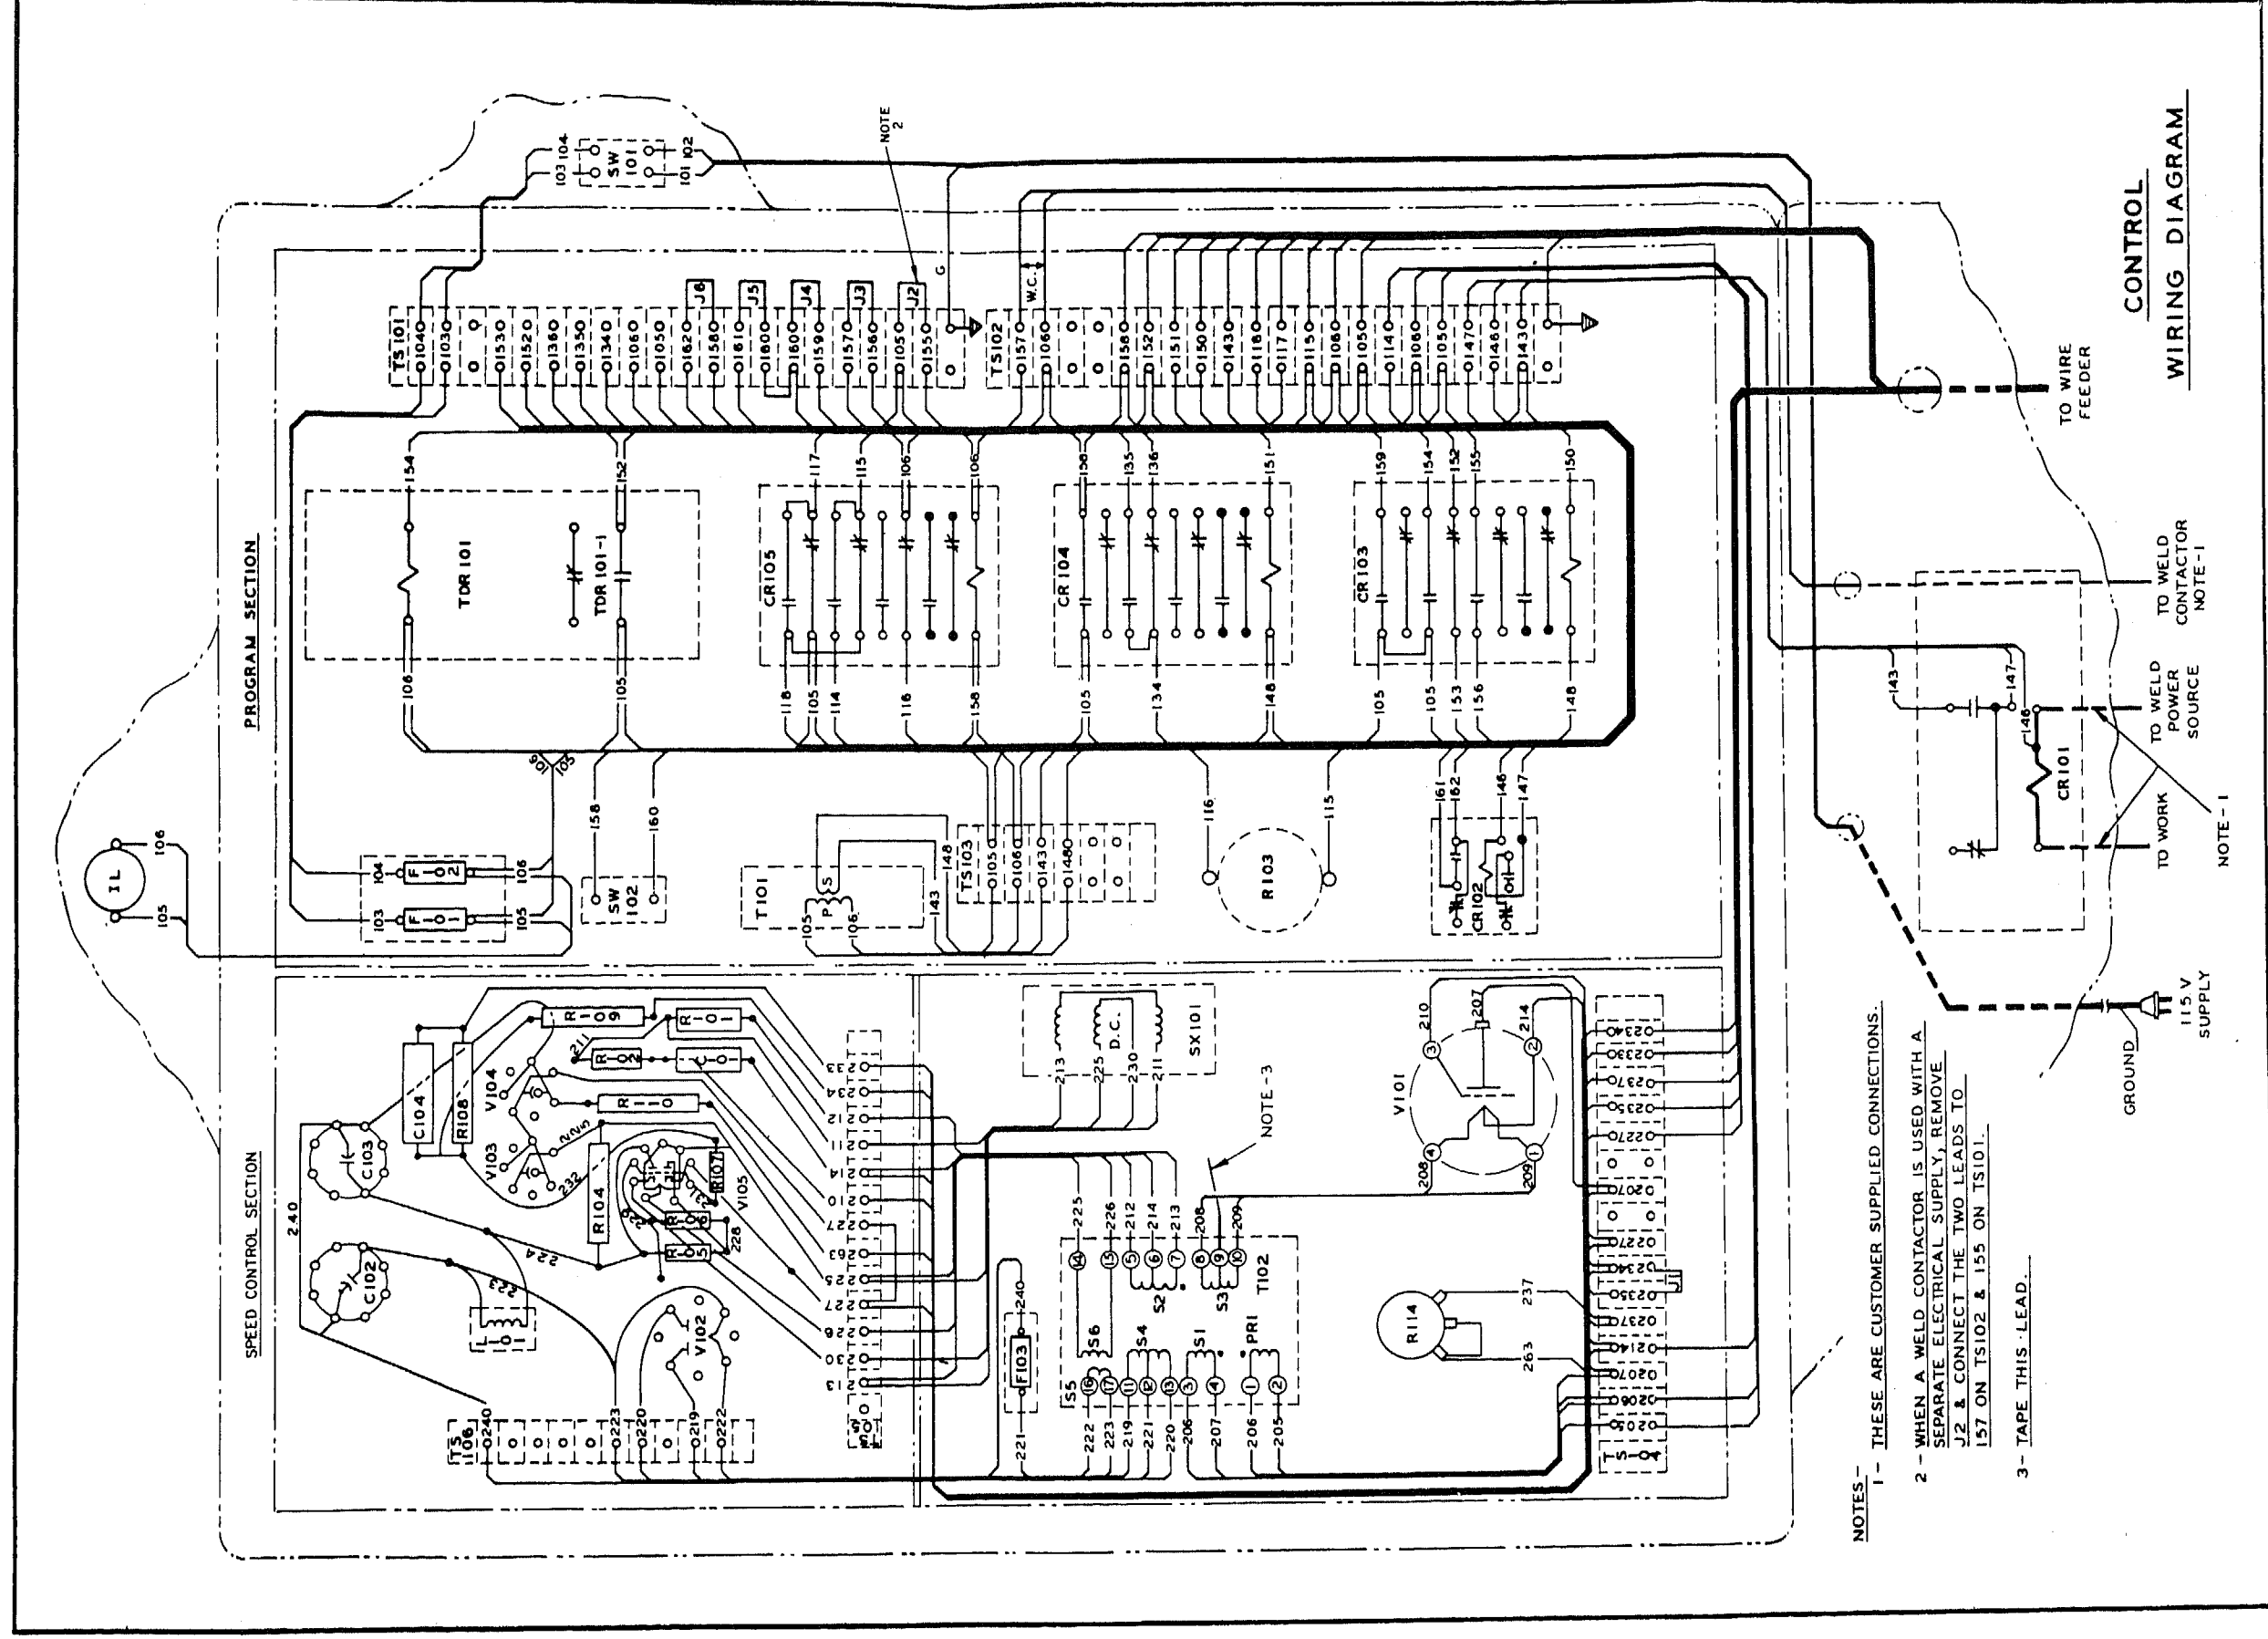

Figure 2. Wiring Diagram Control Panel *
- (2) Refer to figure 2 for the wiring diagram control panel.